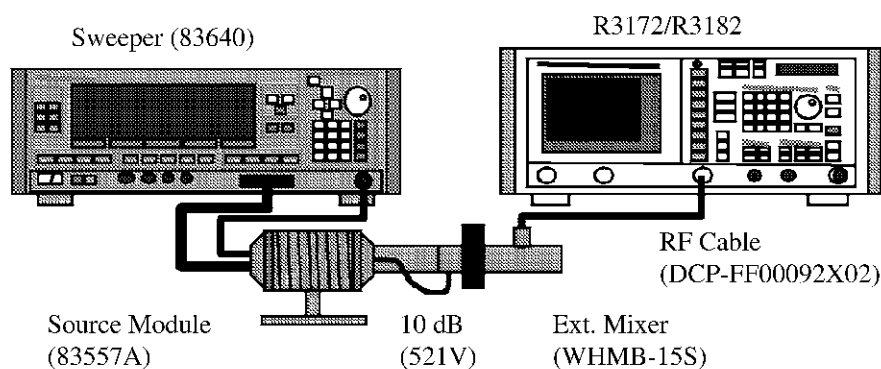

Figure 6-7 Setup of Noise Level Test
1. Connect equipment as shown in Figure 6-7.
10. Connect equipment as shown in Figure 6-7.